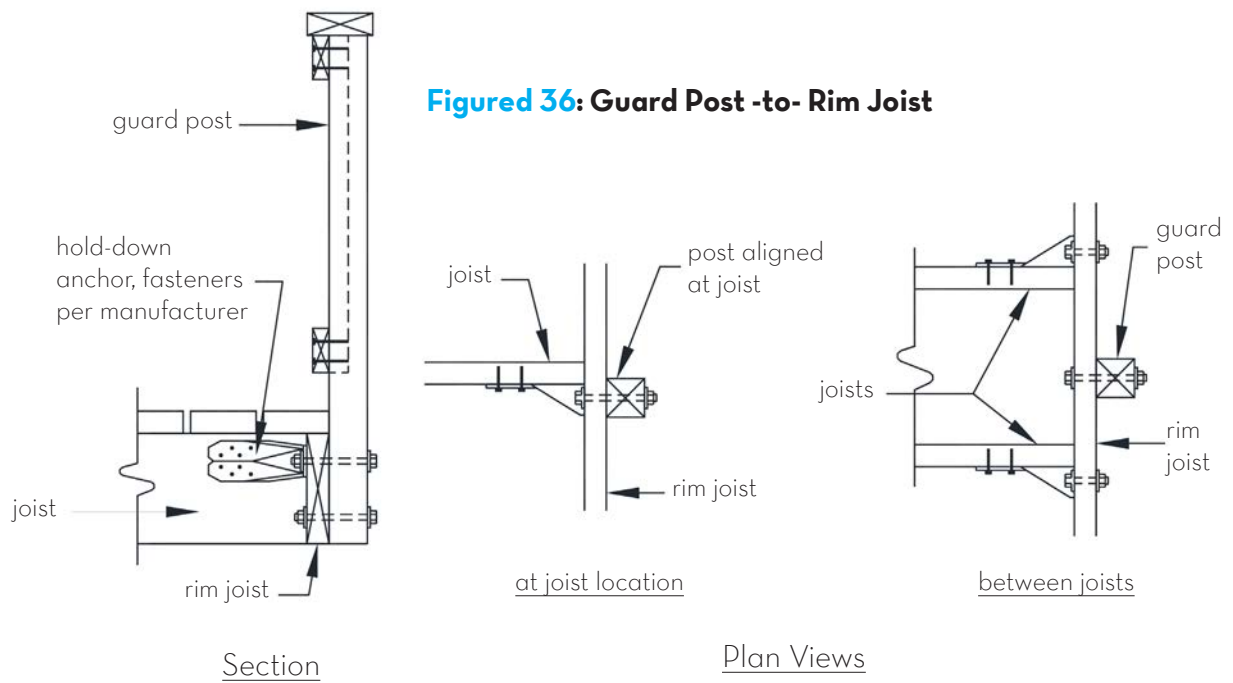

Figure 36: Guard Post -to- Rim Joist
- Hold-down anchors, as shown in FIGURE 35 and FIGURE 36, shall be used to attach the guard post to the end joist and rim joist, respectively.